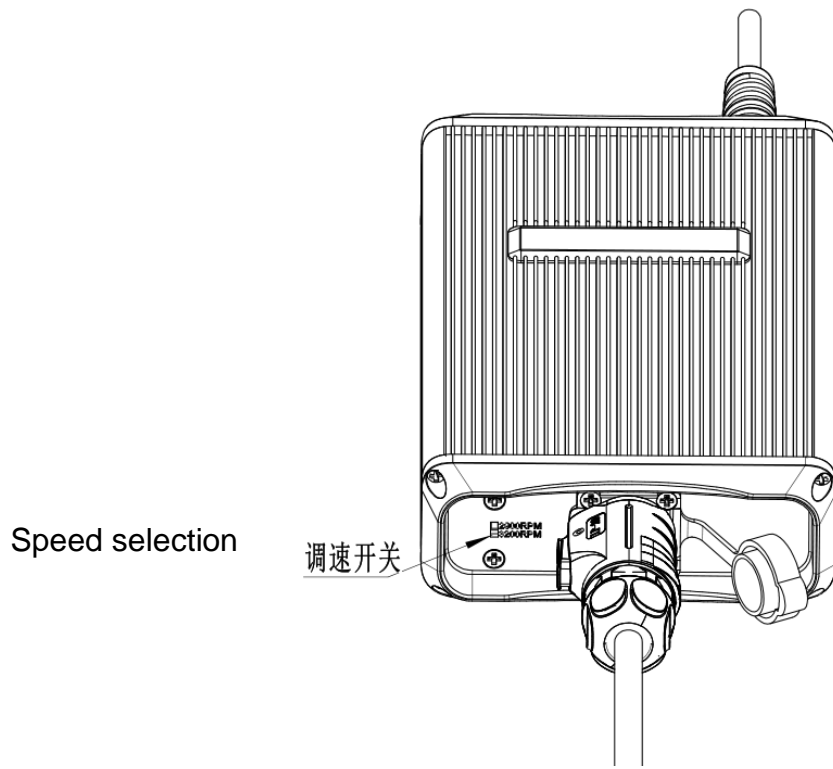

Fig. 5
(5) Toggling the switch under the control box by a screwdriver, available speed 2900 or 3200 rpm (See fig. 5 showing the position).